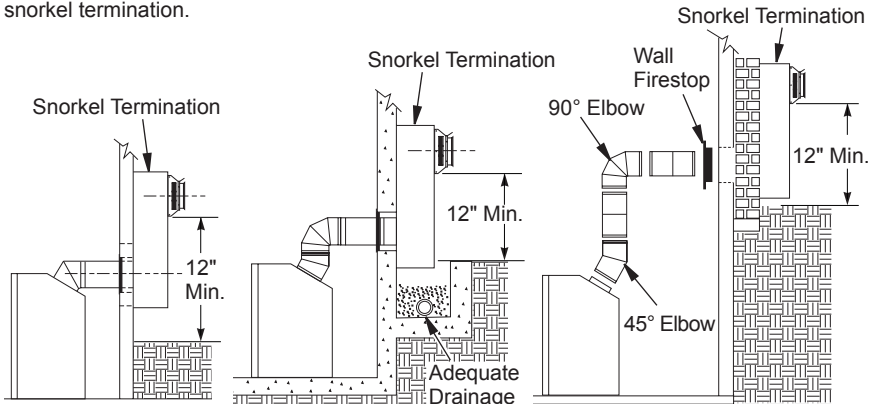

Figure 16 - Snorkel Termination Configurations for Below Ground Installation
- Snorkel terminations are required when minimum clearance to grade cannot be met (see Figure 16, page 13).
Snorkel terminations are available for installations requiring a vertical rise on the exterior of the building. If installing snorkel termination below grade, you must provide proper drainage to prevent water from entering snorkel termination (see Figure 16). Do not back fill around snorkel termination.